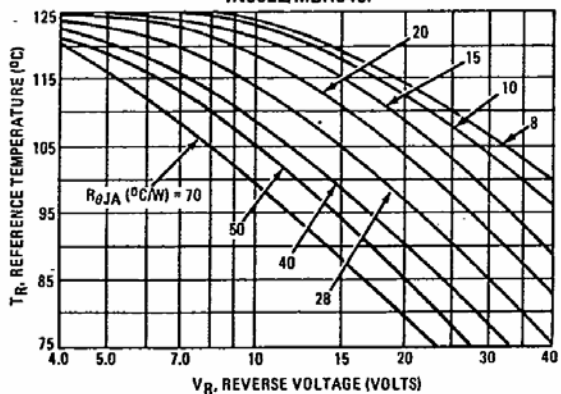

FIGURE 2 – MAXIMUM REFERENCE TEMPERATURE
Step 2. Find T_R from Figure 2. Read $T_R = 108^\circ\text{C}$ @ $V_R = 9.2 \text{ V}$ and $R_{\theta JA} = 40^\circ\text{C/W}$.